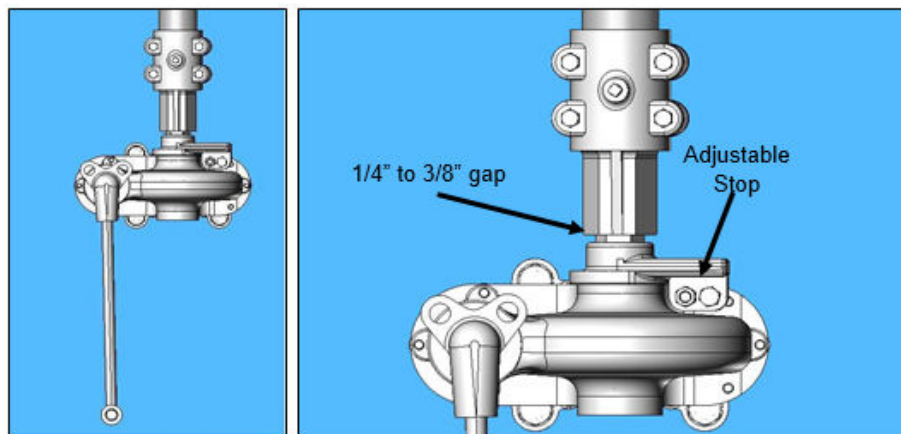
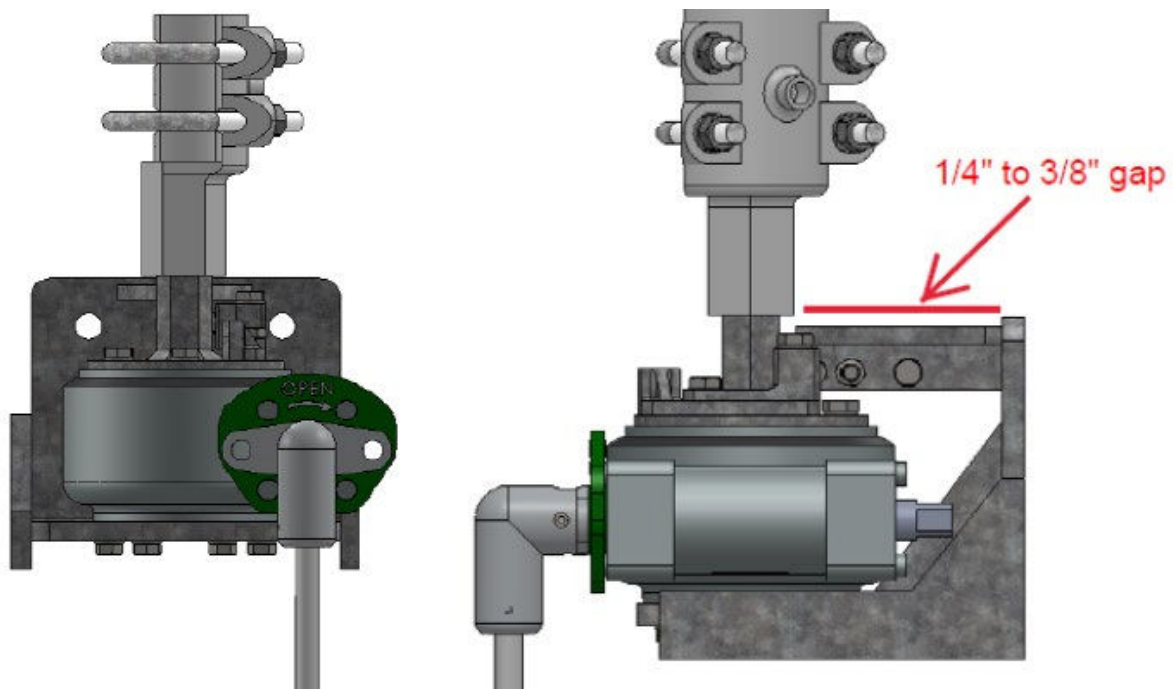

Figure 21: Type HOGO (High Output Geared Operator) Front View
Figure 22: Type SEGO (Safety Enhanced Gear Operator)
- 5.7. **CAUTION:** The pipe collar (above the vertical bearing support) must support the entire weight of the vertical operating pipe. **Do not allow the pipe to rest on the switch operating device.** Refer to **Figure 21** & **Figure 22**.
6.2.1.2. When the switch is properly adjusted the operator handle should hang vertically and free in both the open and closed positions to permit the use of a customer supplied padlock. Refer to **Figure 21**